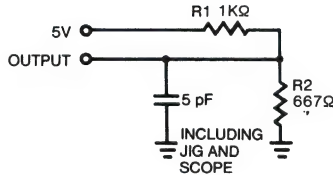

Figure 1b
- t_{HZE} and t_{HZE} are tested with $C_L=5$ pF as in Figure 1b condition is measured ± 500 mV from steady state voltage.